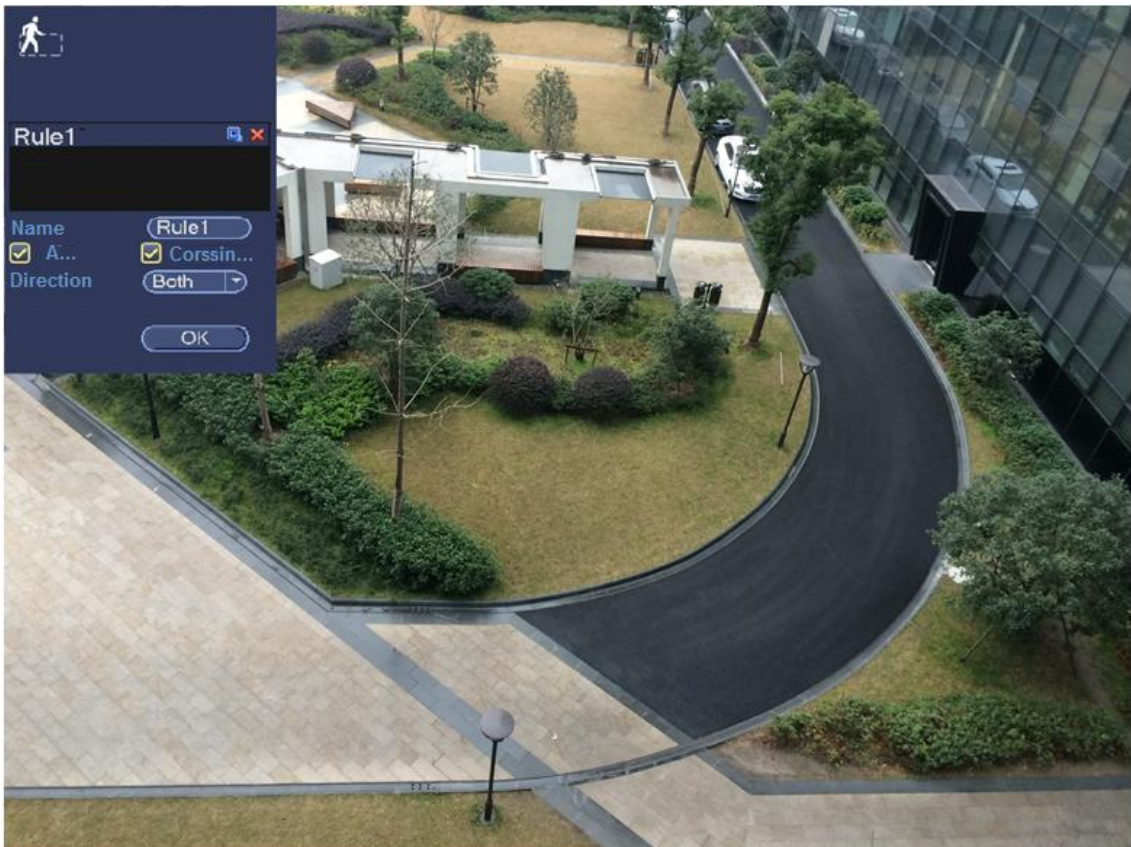

Figure 4-135
- When you select AI by camera, the system displays as Figure 4-135.